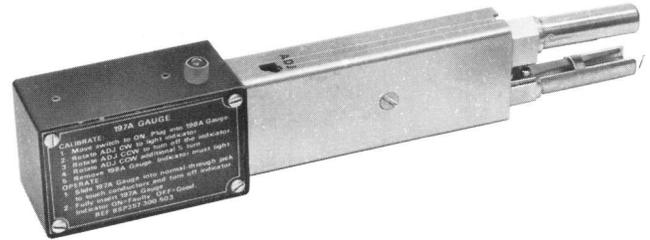

Fig. 1—197A Gauge
1.03 The 197A (Fig. 1) gauge provides a means for applying a calibrated, fixed amount of force to the conductive spring in 513-, 514-, 545-, or 556-type jacks and a circuit which indicates the status of the spring in the jack being tested. The circuit also permits testing jacks that are in service without interrupting or changing the signal characteristics.